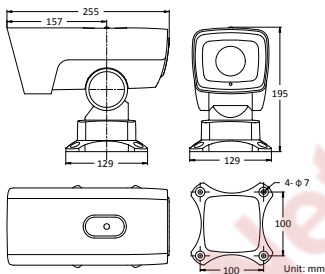

Figure 2-50 Base-mounted PTZ Bullet Camera
- Dimensions of base mounted PTZ bullet camera is shown in Figure 2-50.